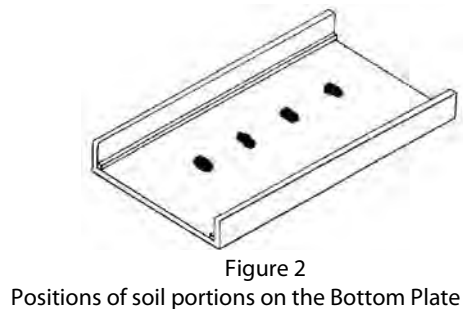

Figure 2
4. Place each ellipsoidal mass about 1 —1-1/2in apart on the bottom plate (see Figure 2).